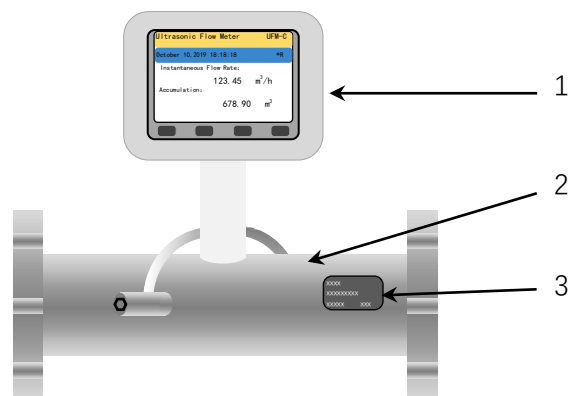

Figure 1 Main Structure of the Product
2.1 Main Structure of the Product - Figure 1